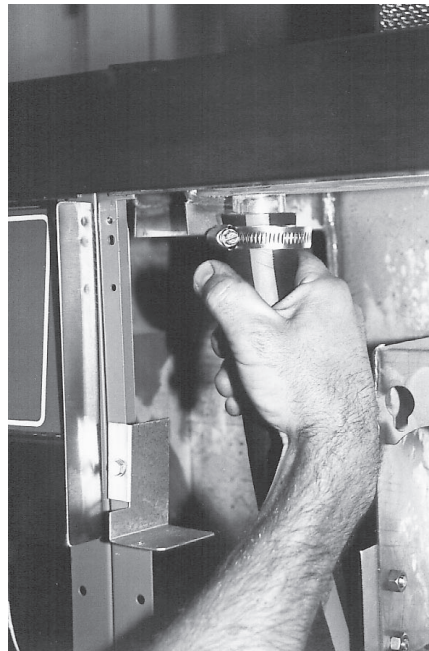

Fig. 45
6. Pull hose from the station drain tube. (Fig. 45)